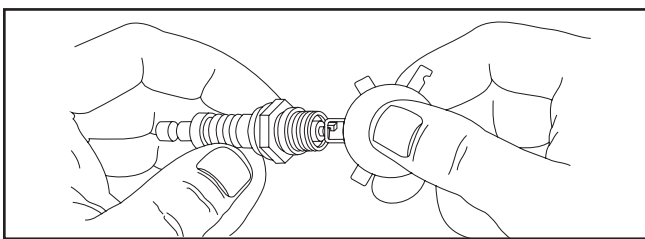

Figure 41. — Checking Spark Plug Gap
- 3A. Check electrode gap (Figure 41) with wire feeler gauge and set spark plug gap to .030 inch (.76 mm) if necessary.